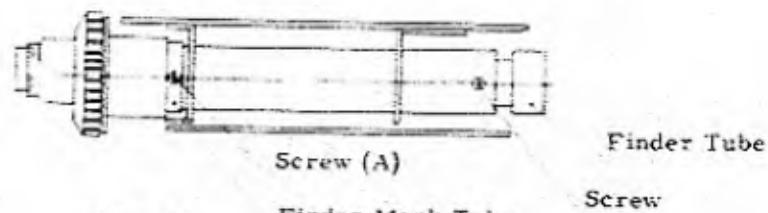

Fig. 61 Finder Mask Tube
4) Adjustment of inclination of Mask is to be made by turning Finder Mask Tube with Screw A slackened. See Fig. 61.